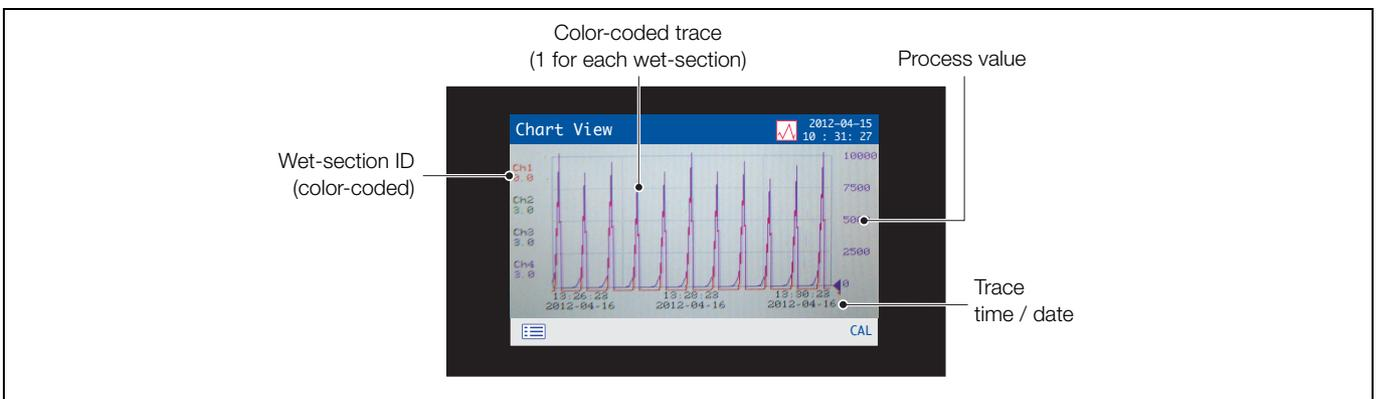

Fig. 6.10 Chart View
- *Chart View* – represents the wet-section readings as a series of color-coded traces – see Fig. 6.10